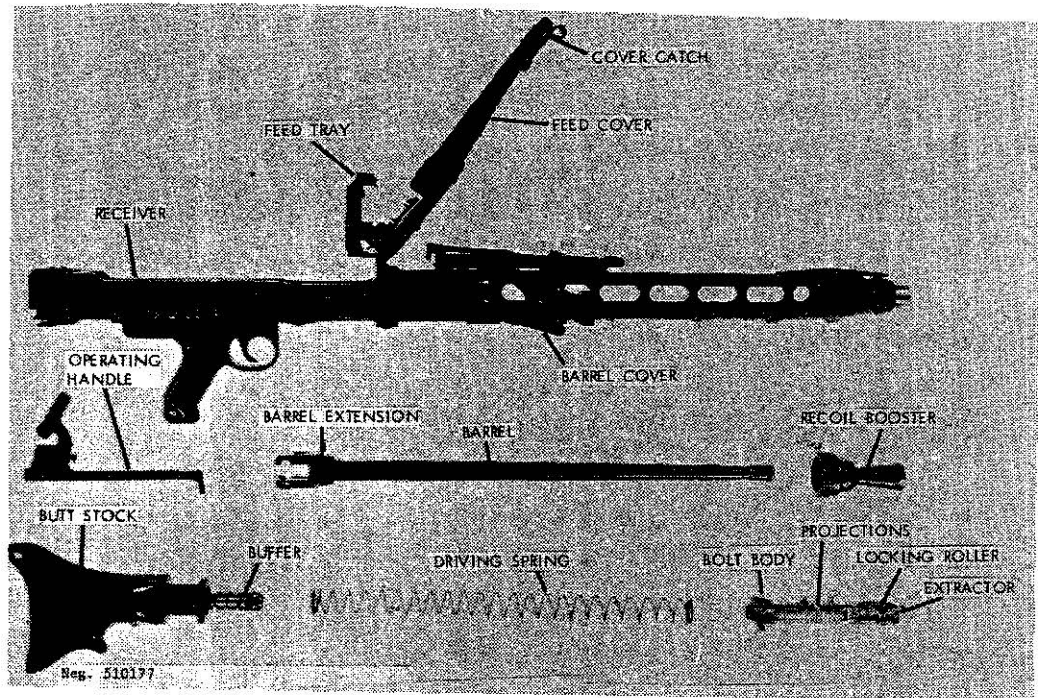

Figure 178. MG-1 disassembled.
d. Pull the locking rollers (fig 178) to the side in the bolt head; then twist the bolt head counterclockwise until it is free of the bolt body. The ejector actuator, locking cam, and firing pin can now be removed from the disassembled bolt. Note: Some guns have a powerful spring housed in the bolt body; use care when twisting the bolt head.
f. To reassemble the gun, insert the flat end of the firing pin into the locking cam and place the locking cam into the bolt head. Slip the ejector into the bolt body. If the bolt has an internal spring and plunger, install these parts with the plunger toward the narrow end of the ejector actuator. Place the bolt head over the bolt body and twist the bolt head so that the extractor is in line with the double projections (fig 178) on the bolt body.
Insert the driving spring into the receiver and use the spring to push the bolt fully home. Slip the buffer (fig 178) into the driving spring. Hold the butt twisted to 90° and insert its threaded section into the receiver; rotate the butt until the butt catch snaps into place. Close the cover and press the safety to the left. Fold the bipod.
- c. There is a locking roller (fig 179) on each side of the bolt head (fig 179); rails on the inside of the receiver hold the rollers in their inner position until the bolt head enters the barrel extension (fig 178). After the bolt head enters the barrel extension, the locking cam (fig 179) forces the locking rollers outward and into the locking recesses in the barrel extension. The firing pin is carried in the locking cam, and after the locking rollers are engaged with the barrel extension, the cam drives the firing pin into the primer of the cartridge and fires the cartridge.